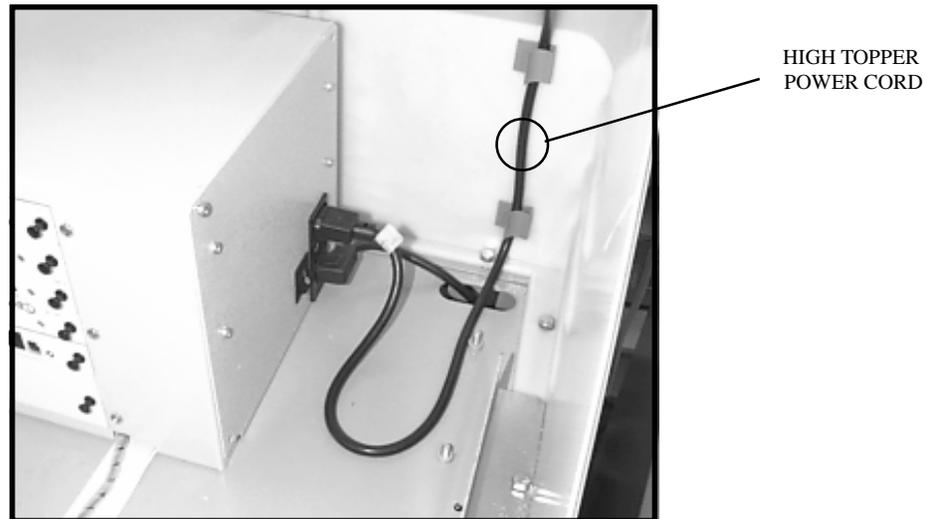

FIGURE 4-5
12. Remove the Tie-wrap from the fluorescent bulb power cord and route the power cord down the right-hand side of the unit. Use the cable clips already installed in the unit and on the Back Sign Housing Assembly to hold the power cord in place. Plug the end of the power cord into the output connector on the card cage side plate. (See Figure 4-5.)